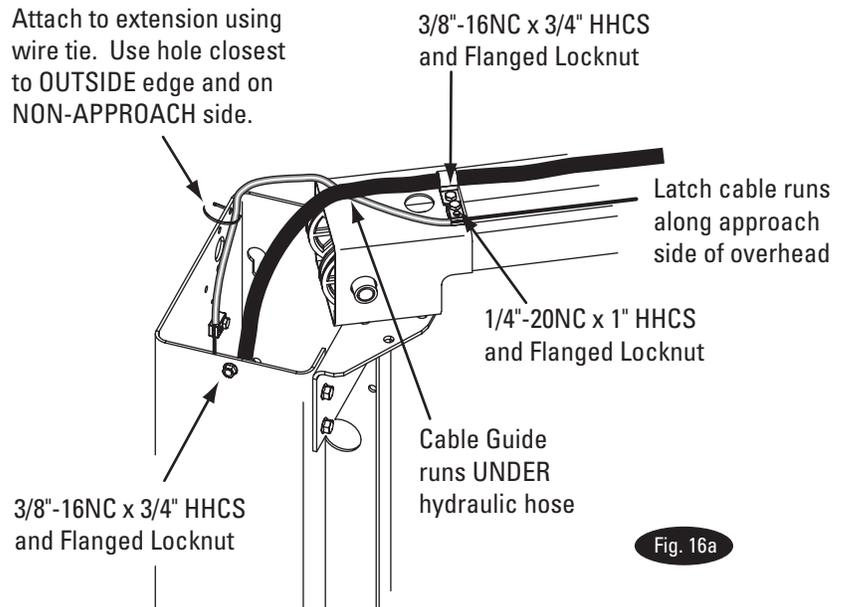
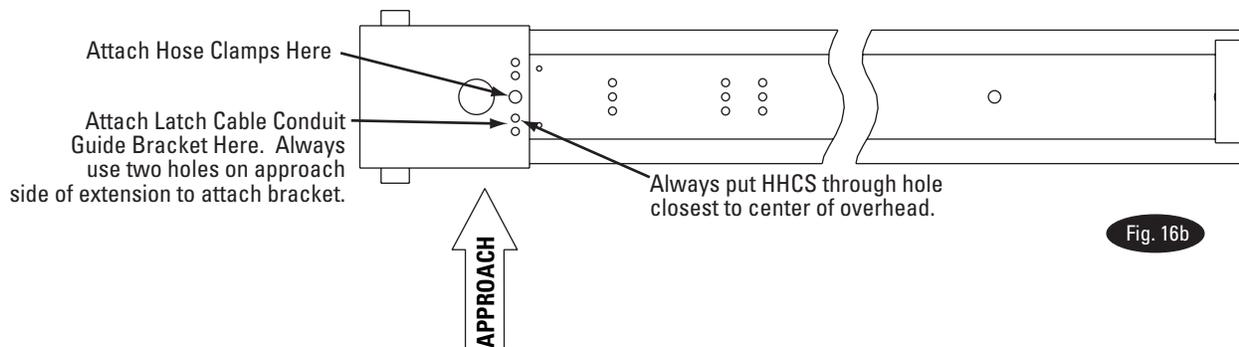
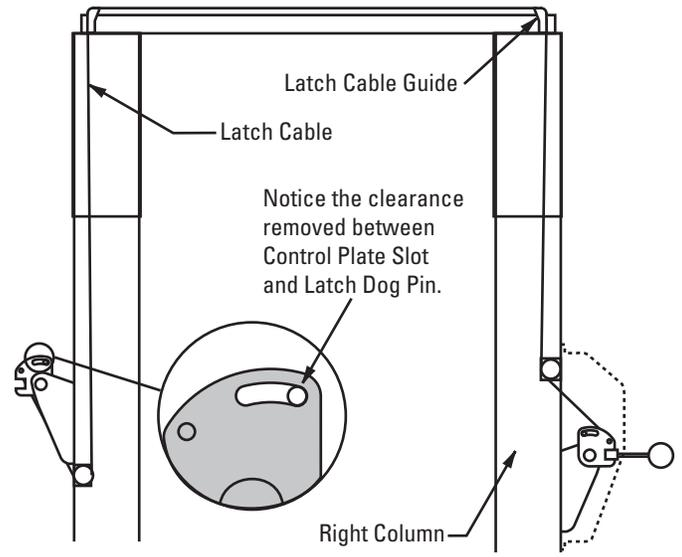
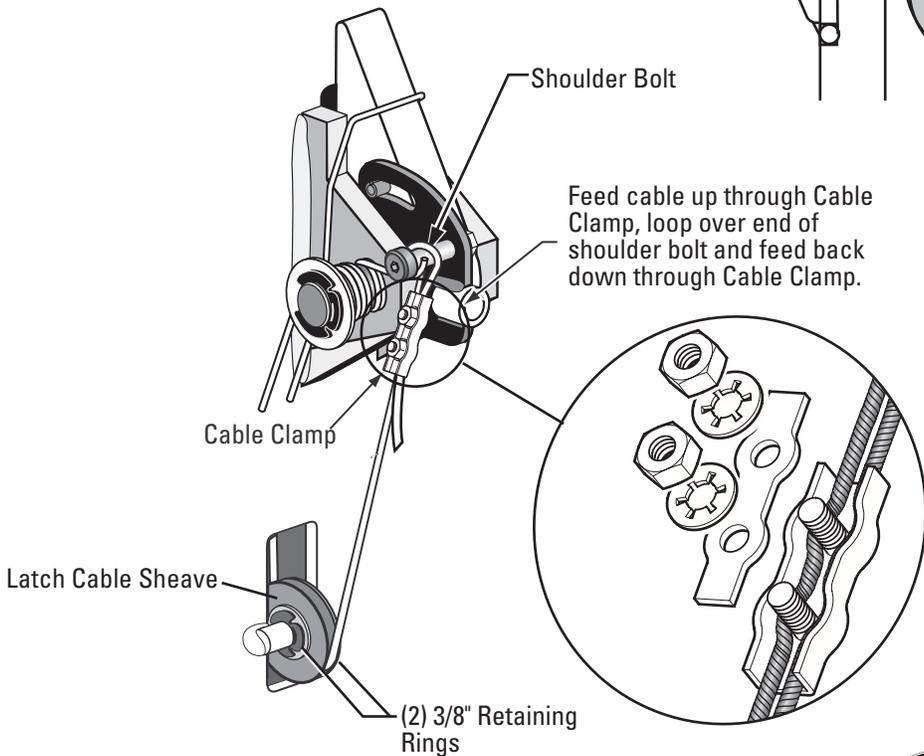

Fig. 16a
Fig. 16b
Fig. 18
Fig. 19
NOTE: Route Power Unit hose inside columns using slots provided at column base, Fig. 14. Route Overhead Hose in column channel on outside of column, Fig. 14. Overhead hose goes over top end of overhead assembly, Fig. 12 & Fig. 16a & Fig. 16b.
- D) Attach latch cable conduit guide brackets to overhead as shown, Fig. 16a & Fig. 16b. Always use the holes on the approach side of the lift. HHCS should be in hole nearest the center of the overhead, Fig. 16b.
- E) Route cable up inside column and through the latch cable guide, Fig. 16a & Fig. 18.
**IMPORTANT** Using wire ties provided, tie off cable guide to column extension as shown, Fig. 16a. Guide must be attached in hole closest to the outside edge of the column on the NON-APPROACH side.
- F) Continue routing cable to the left column latch cable guide, Fig. 16a & Fig. 18, routing the cable through the left column latch cable guide, Fig. 16a.
- G) Bring the cable down inside the left column and feed the end of the cable through the lower latch cable sheave slot so that the cable is now back outside the column, Fig. 19.
- H) Install latch cable sheave and retaining rings in lower slot of non-power unit column as shown, Fig. 19.
- I) Route cable under the bottom side of the latch cable sheave, Fig. 19.
- K) Insert cable in cable clamp along one side, loop around shoulder screw and back down, inserting cable along other side of cable clamp, Fig. 19. Place top back on clamp, barely tightening.
- L) Next, pull the control plate down, Fig. 18 & Fig. 19, to eliminate any clearance between the control plate slot and the latch dog pin, Fig. 18.